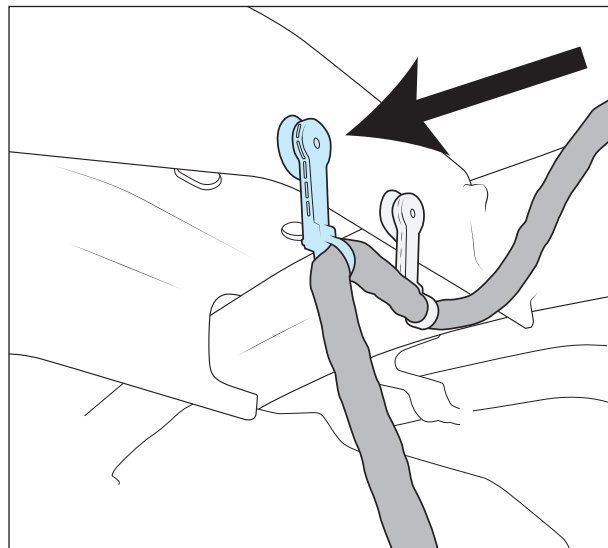

Figure 4
7. On Rubicon models, remove the rear most retainer holding the locker cable to the frame (fig. 4) to allow for axle droop.